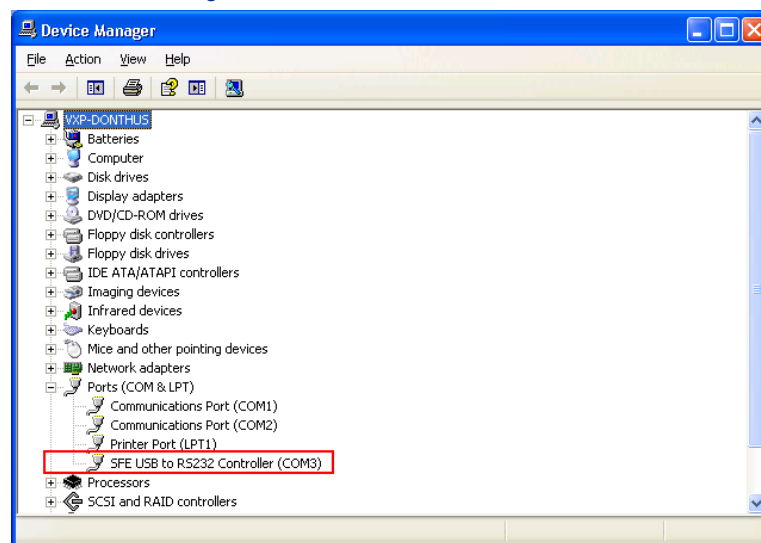

Figure 17 · Device Manager Listing SFE USB to RS232 Controller Drivers
2. If the SFE USB to RS232 Controller drivers are automatically detected (this can be verified in Device Manager), as shown in Figure 17. Proceed to next step; otherwise follow Step 6 - Installing Drivers for the USB to RS232 Bridge.